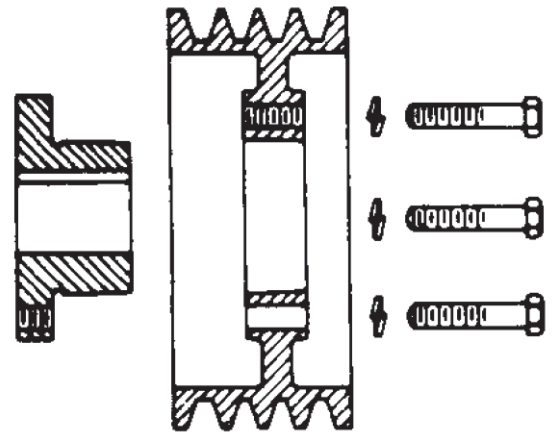
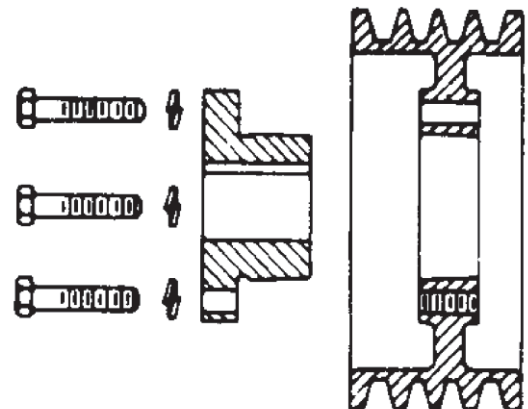

FIGURE 78 - STANDARD MOUNTING
FIGURE 79 - REVERSE MOUNTING
2. Select the type of mounting that best suits this application as shown in *Figure 78* on page 78 and *Figure 79* on page 78.